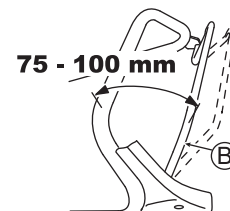

Fig. 32
Adjust so that the machine runs (the drive clutch gets engaged) when the distance between the drive clutch lever (B) and the handle is 75 - 100 mm as shown in Fig. 32.